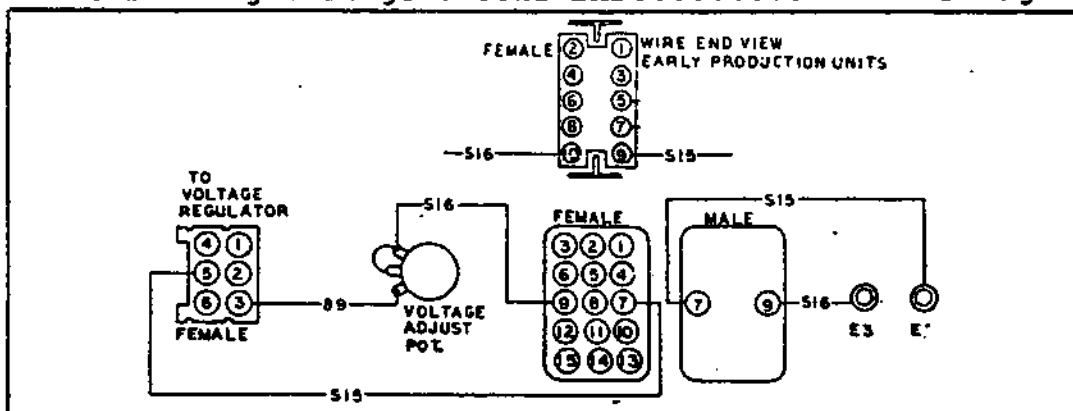

Figure 7.2-A. Voltage Regulator Sensing Voltage Circuit
7.2.3- CHECK REGULATOR SENSING VOLTAGE (Figure 7.2-A)
CHECK SENSING LEADS S15, S16 AND 89 (Figure 7.2-A)